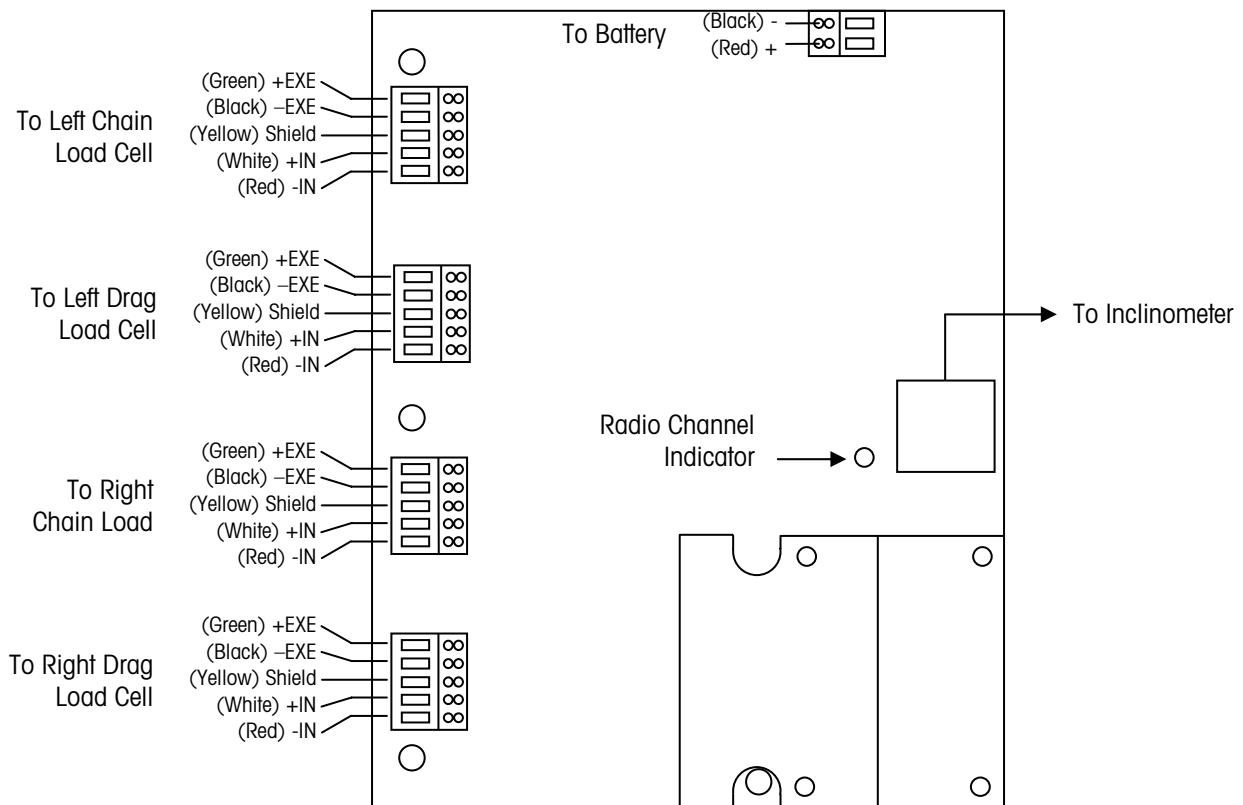

Figure 6-2: Load Cell Wiring Codes
4. Check all load cell connections to make sure they are wired correctly. The wiring color codes are shown in Figure 6-2.
8. Wire the load cell cable to the terminal strip on the printed circuit board (PCB) inside the telemetry enclosure. Connect the wires according to the wiring codes in Figure 6-2. To connect a wire, insert the tip of a flat-blade screwdriver into the appropriate slot in the terminal and insert the wire into the opening across from the slot.
9. Wire the load cell cable to the terminal strip on the printed circuit board (PCB) inside the telemetry enclosure. Connect the wires according to the wiring codes in Figure 6-2. To connect a wire, insert the tip of a flat-blade screwdriver into the appropriate slot in the terminal and insert the wire into the opening across from the slot.